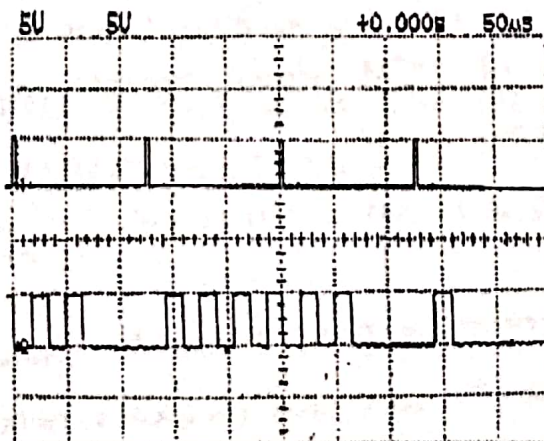

Figure 5-9. Clock signal(above) and PCM direct signal(below)
- (11) If input probe of oscilloscope CH-1, 2 would be connected to SYNC, CLK and PCM OUTPUT terminal of PCM I module, wave form of oscilloscope as figure 5-9 will be appeared. At that time, set TIME/DIV of oscilloscope to 50[μs].